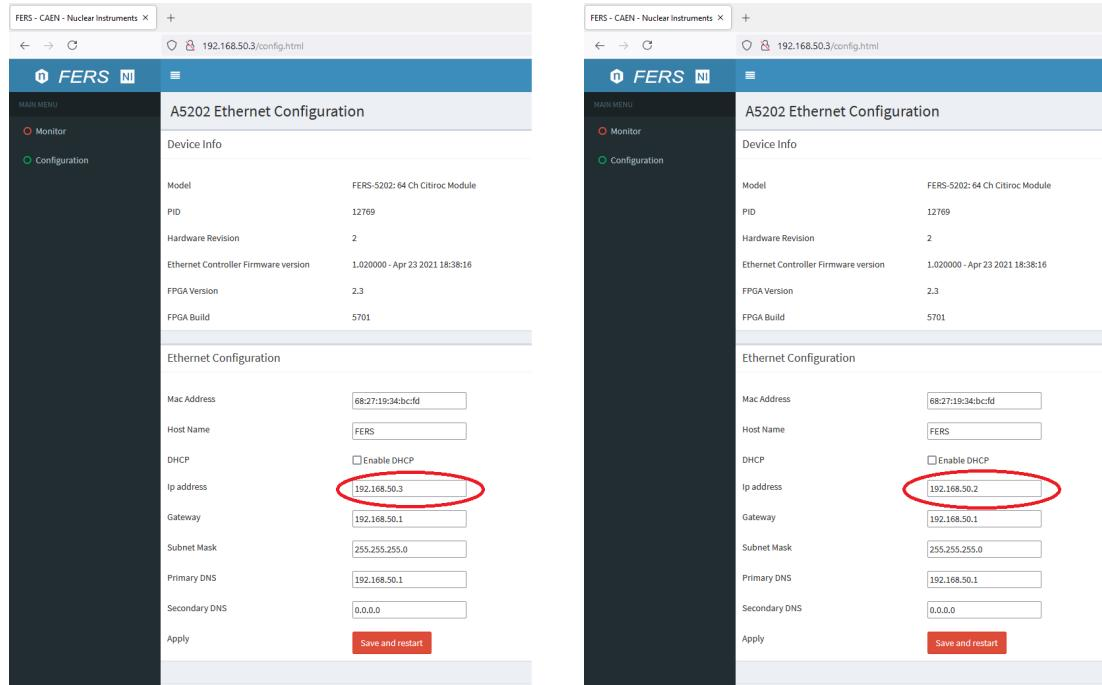

Fig. 3.17: Configuration Tab of the A5202/DT5202 Web Interface, with default settings on the left and modified IP address on the right.
3. Open the Configuration Tab of the Web Interface (see Fig. 3.17) and select for the "IP address" parameter a value different from the IP address set for the PC. For instance, in the A5202/DT5202 User Manual [RD3], the IP address of the PC was set to be "192.168.50.4". For this reason, the "192.168.50.2" IP address was chosen in this example.